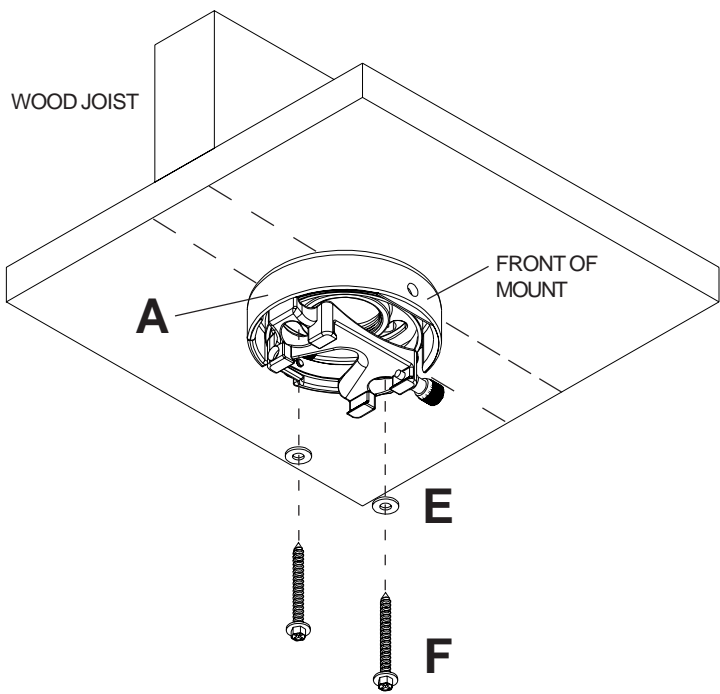
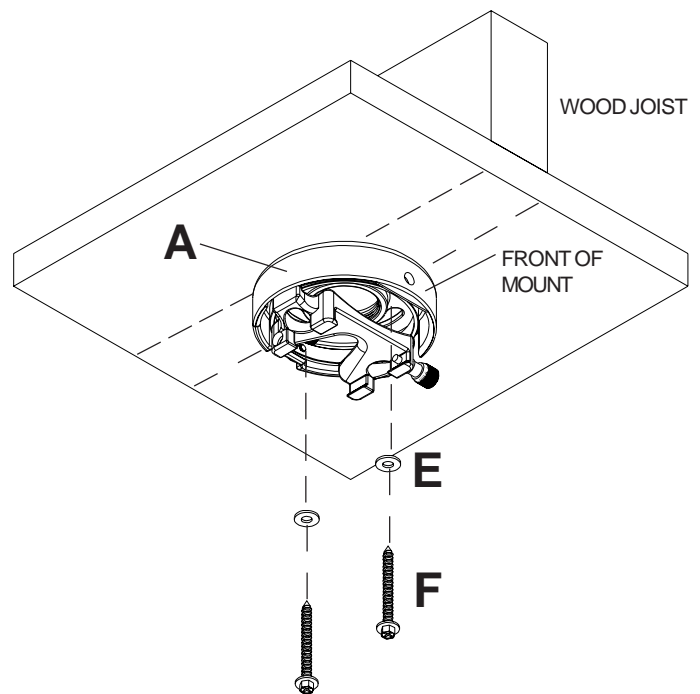

figure 1
figure 2
- 4** Drill two 5/32" (4 mm) dia. holes to a minimum depth of 2.5" (64 mm). Attach projector mount assembly (A) with two #14 x 2.5" (6 mm x 65 mm) wood screws (F) and two flat washers (E) as shown in **figure 1** or **figure 2** depending on joist orientation. Tighten wood screws (F) using 3/8" (10 mm) socket wrench until projector mount assembly (A) is firmly attached.